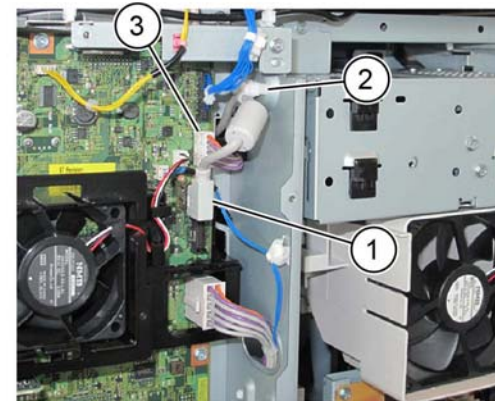

Figure 7 USB cable
8. If the machine has a fax installed, disconnect the connection between the connector and the USB cable, Figure 7:
- a. Disconnect the USB cable (1).
- b. Release the USB cable clamp (2).
- c. Disconnect the connector (3).